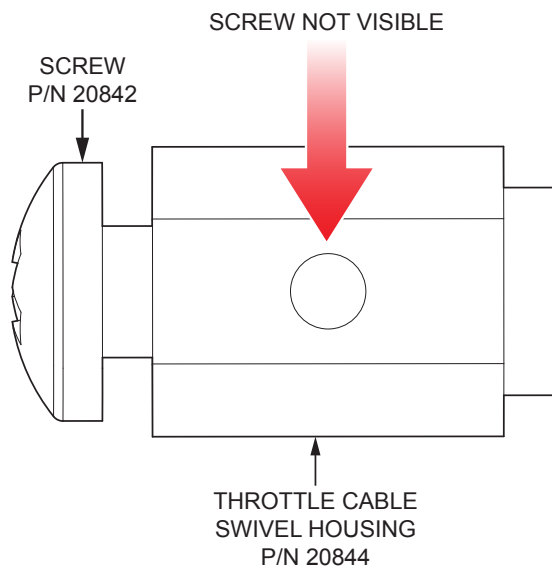

Figure 16. Loosen Screw Inside Swivel Housing
- LOOSEN** the screw (P/N 20842), but **DO NOT** remove the screw from the throttle cable swivel housing (P/N 20844). The screw is loose enough when it is no longer visible inside the housing (Figure 16).